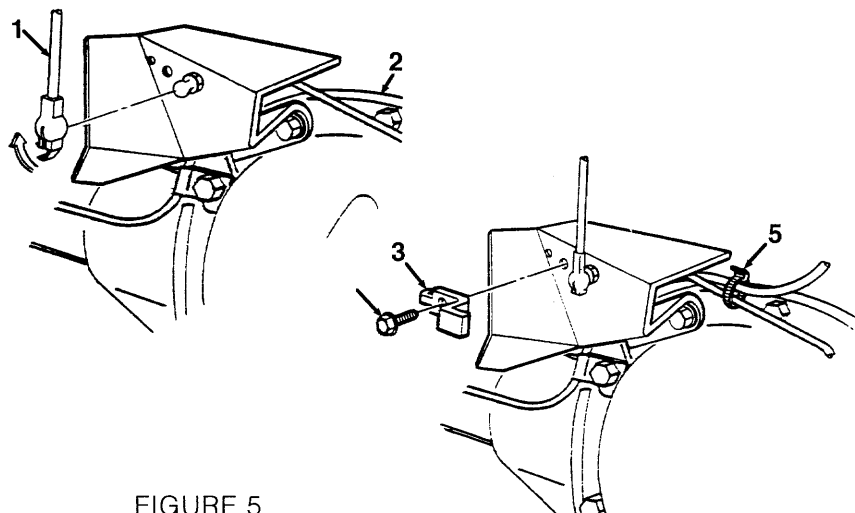

FIGURE 5
- 9 Connect ELC lower sensor link to axle bracket and close snap lock (Figure 5).
- 10 Install lower link retainer to axle bracket assembly and torque bolt to 15-20 N.m. (11-15 lbs. ft.)(Figure 5).
- 11 Cable tie right rear wheel sensor harness to brake pipe between bracket mounting bolt and next clockwise bolt on axle cover as shown in Figure 5.